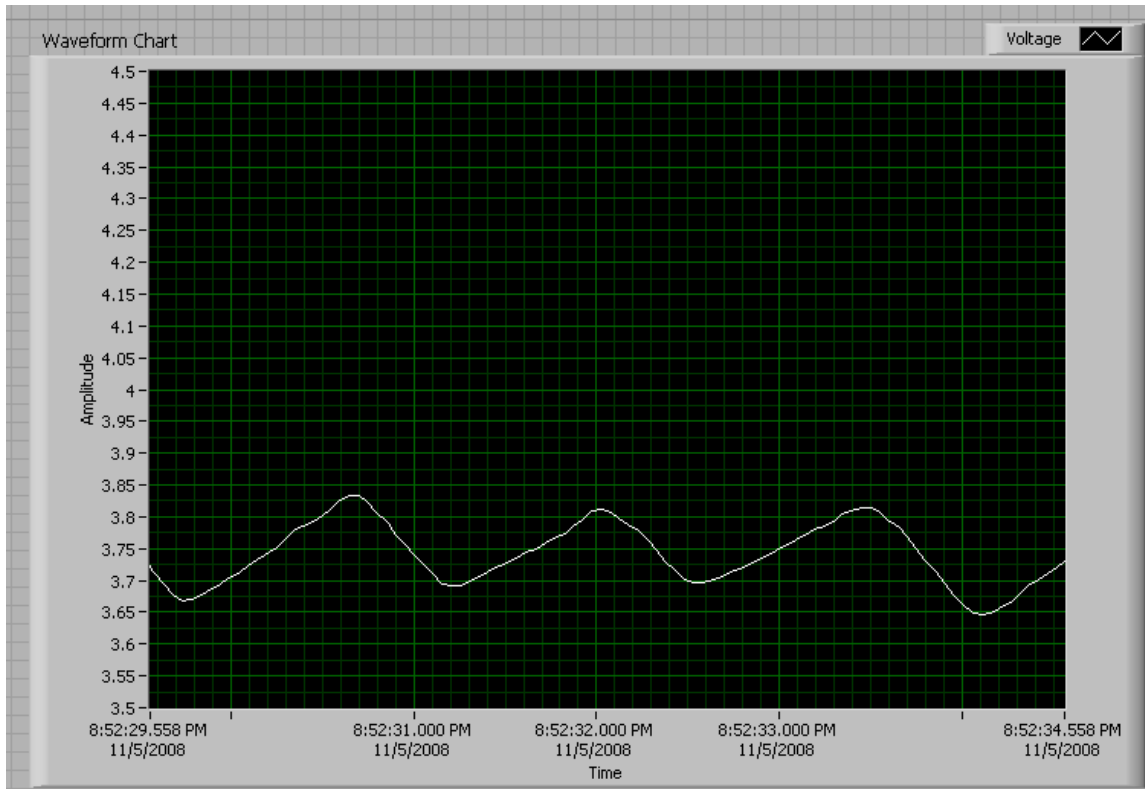

Figure 1: ΔV with Temperature when breathing on thermistors
4. Figure 1 (see below) shows a screen shot of a graph of voltage vs. time from the custom LabView program using the amplifying circuit we constructed. We breathed onto the 3 thermistors in series to make the change in voltage.